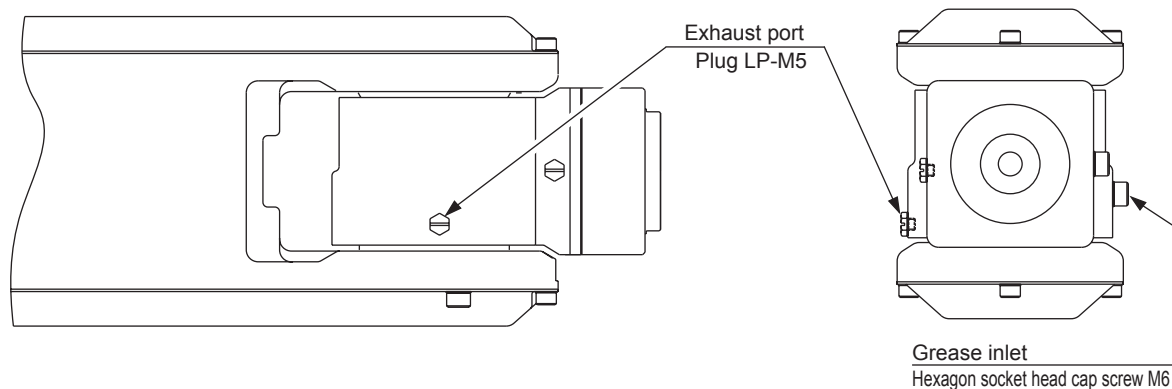

Fig. 33 T-Axis Gear Diagram
3. Inject grease into the gear grease inlet using a grease gun. (Refer to " Fig. 33 T-Axis Gear Diagram ".)